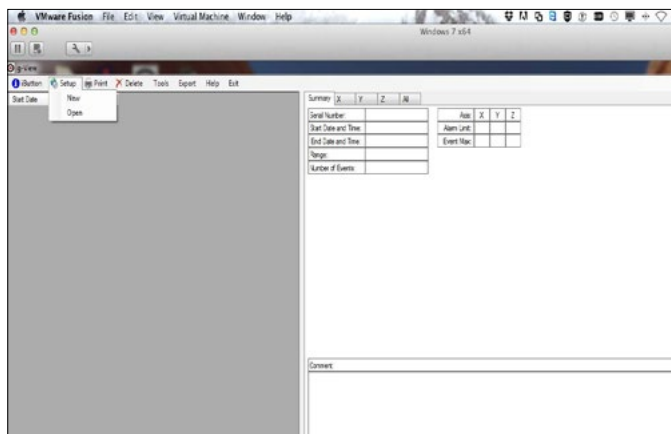

Figure 2
1. To create a new setup file, Click Setup on the menu strip, then click New on the sub menu (Figure 2).